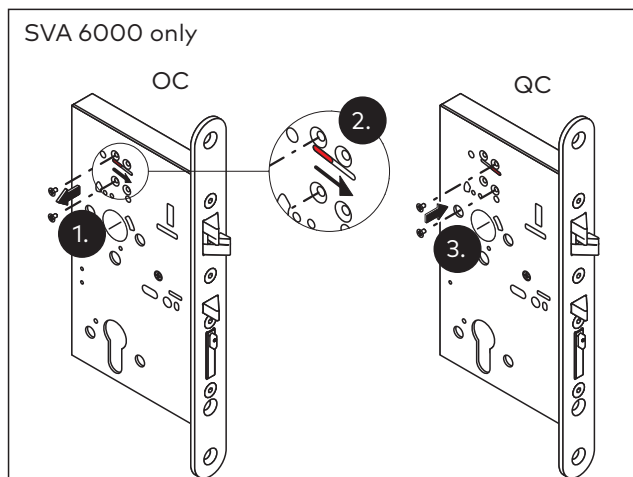

Fig. 20 Change operating current to quiescent current
1. If necessary, change operating current (OC) to quiescent current (QC) (Abb. 20).